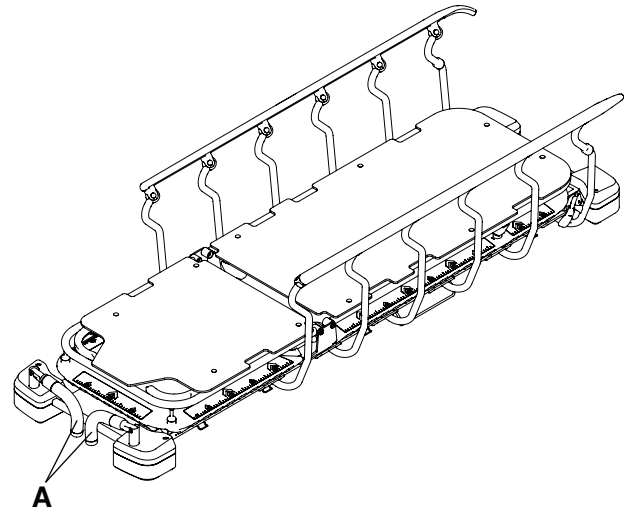

Figure 8 – Stowing the head end push handles
4. Reverse steps to stow the head end push handles (A) (Figure 8).